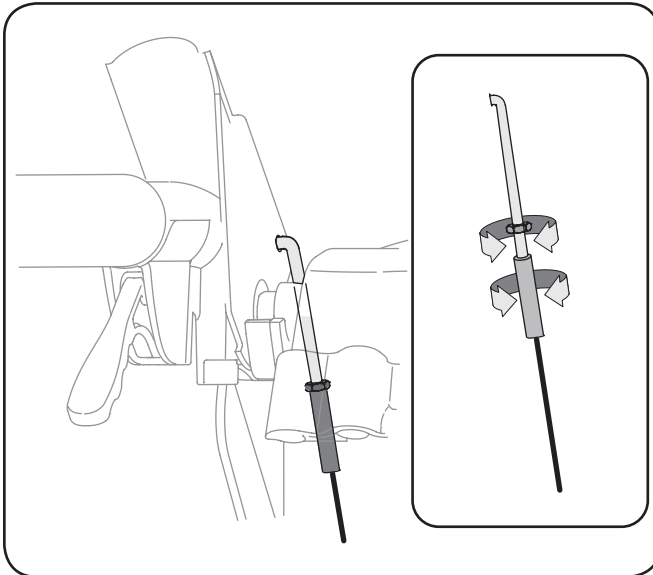

Figure 6-7
6. Thread the ferrule without turning the cable onto the “Z” fitting until there is no slack in the cable. See Fig. 6-7. Do not overtighten the cable. Hold the flats on the ferrule with pliers and tighten the jam nut against the ferrule.
8. Retighten the hex jam nut. See Fig. 6-7.